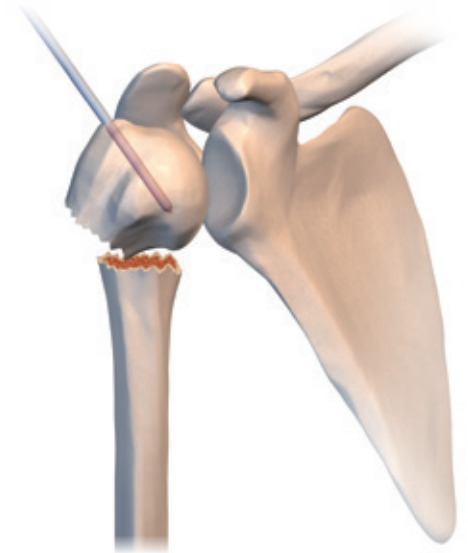

fig. 18
Prior reduction is essential, either by external manipulation or percutaneously using a plate or pin - the joystick technique (**fig. 18**). A short pre-acromial incision enables insertion of the blunt tip of the scissors as far as the humeral head. The entry point at the top of the humeral head is marked using the square awl under radiographic guidance. This bores the humeral head. The soft tissue retractor (**ref. 236 844**) enables access to the epiphysis for percutaneous fitting of the screws. The next stages are those set out in **paragraph 2**.